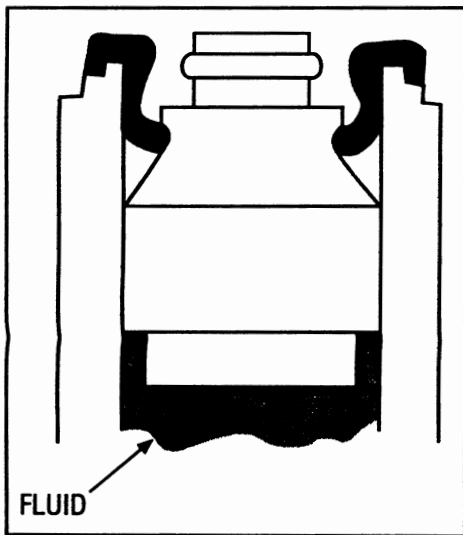

FIGURE 2
13. To replace the seals, lube them with DOT 3 brake fluid. Carefully install them onto the pistons. Insure the lip of the seal is towards the fluid side of the pistons (see fig. 2).